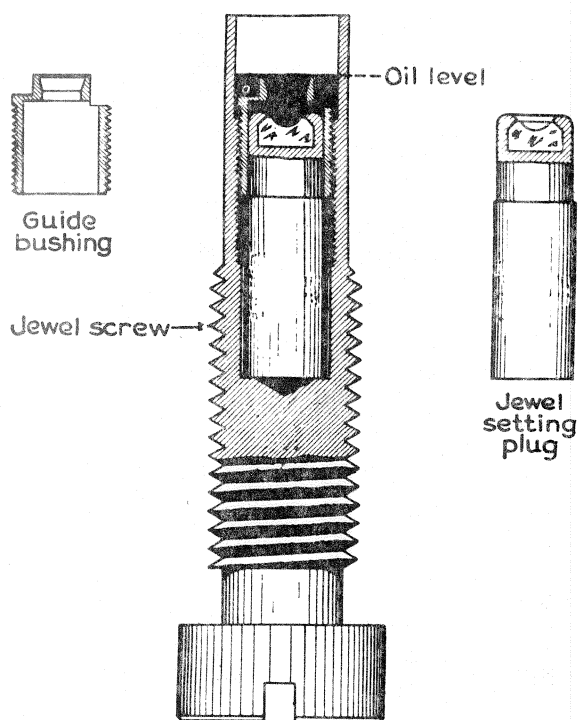

Fig. 1. Oiltight jewel screw
The oiltight jewel-pivot bearing, Fig. 1, consists of a jewel assembled within an adjustable bushing at the bottom of the meter frame, and a pivot which is screwed into the lower end of the disk shaft.
Watthour Meter Jewel Oil be added, if required, to raise it to the level indicated in Fig. 1. It is not always necessary to disassemble the jewel screw for a second oiling, as there is little chance for the oil in the reservoir to be lost.
The following directions for initial oiling of the Oiltight Jewel Screw are given with reference to Fig. 1:
- g. Inspect the oil level, which should be as shown in Fig. 1. Because of minor variations in mechanical dimensions of the reservoir or variation in size of the drops obtained from the wire loop, three drops of oil cannot always be taken as the correct amount. If more is needed to fill to the right level, it should be added.